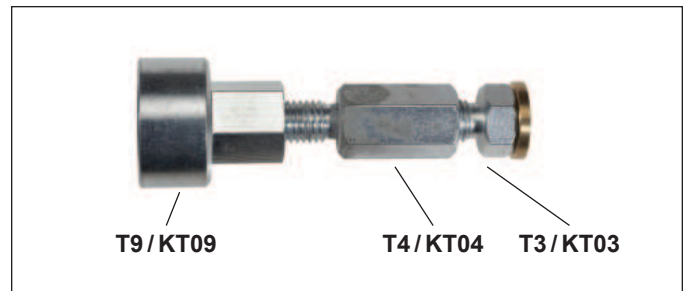
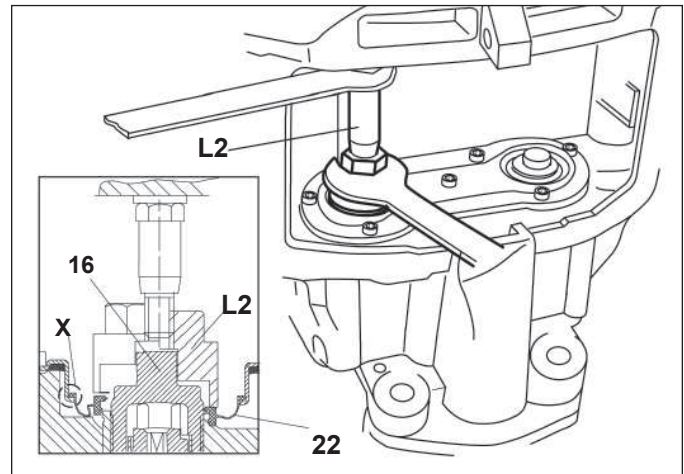

Figure 54 – On-Vehicle Inner Seal Installation Tool (L2)
Figure 55 – Off-Vehicle Inner Seal Installation
5.5.13 Position the replacement inner seal (22) over the threaded tube (16). See Figures 54 and 55 for the tools and installation arrangement used. The threaded tubes need to be retracted to allow the tool to be inserted. Use the combination tool L2 (T4 + T3 + T9) with the long spacer (T4) as shown in Figure 55. Since the installation tool is guided by the center post of the threaded tube, advance the tube a small amount to align the tool and the center post. Install the new inner seal (22) into position by rotating the adjuster nut on the T4 portion of the tool using an open-ended wrench.